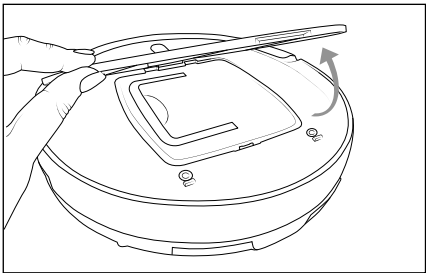

Fig. 5
- 1) Remove the cover **15** of the dust container **12** and pull it out of the appliance by the handle (see Fig. 5 and 6).